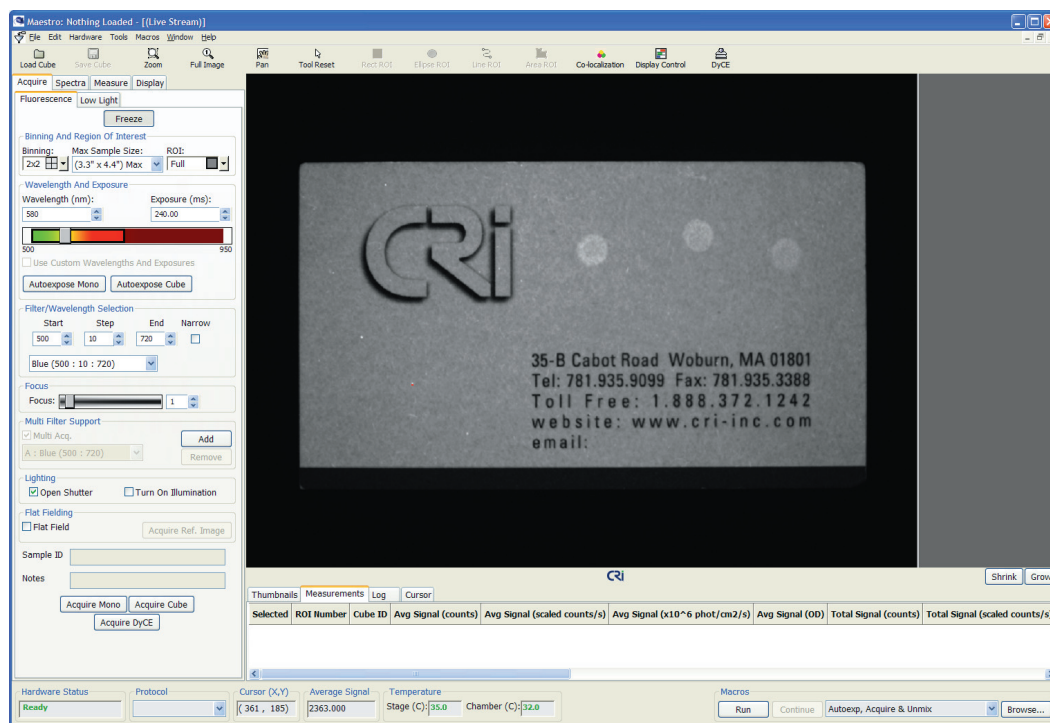

Figure 21. Acquire/Fluorescence Panel with Live Grayscale Image
2. Accept the default **Binning** (2x2) and **Region Of Interest** (Full) settings for now. For **Maximum Sample Size**, select (3.3” x 4.4”) so that the business card image fills the Live window (see Figure 21).
4. Use the external focus knob, or the **Focus** slider or scroll box to focus the image. The scroll box shows the current focal distance in mm. In Figure 21 for example, 2 means the lens is focused at 2 mm from the stage surface.